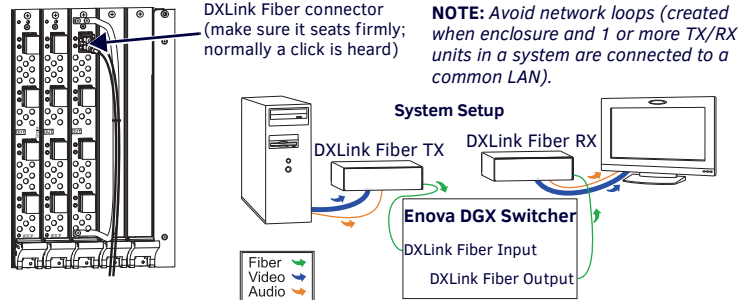

FIG. 2 DXLINK FIBER CABLE ATTACHED TO INPUT; SYSTEM SETUP WITH DXLINK FIBER
2. Provided/recommended for DXLink Fiber Boards – Install cable management bars. Fasten bar with two screws on one end of board and one screw at the other (FIG. 2) (the long part of the bar is to right of holes); do not over tighten. **DGX 3200 only** – Remove number plate at rear top; replace when done.
**Recommended** – Fasten cable management bars with 2 screws on one end of board and 1 screw at other (long part of bar is to right of holes); do not over tighten (FIG. 2 left).